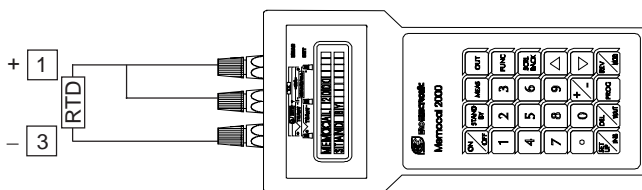

Fig. 3
- 1) Measure the temperature close to terminals 1 and 3 using a calibrator, for instance, the MEMOCAL (see Fig. 3).